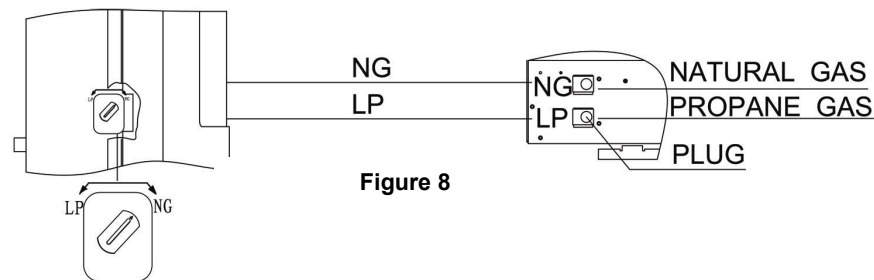

Figure 8
2. For NATURAL GAS, press knob using a flat screw driver with a blade with thickness of a quarter and turn knob clockwise  until the knob locks into the NG position (see Figure 8). Selection valve must be locked in the NG position. Do not operate heater between locked positions!